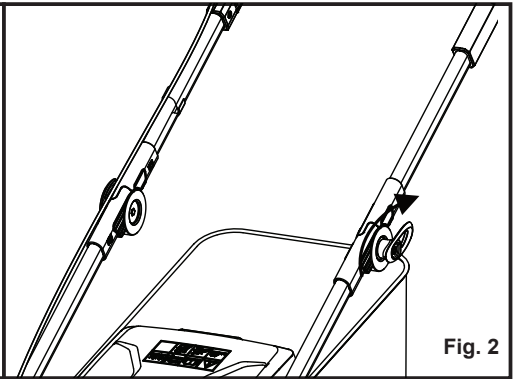

Fig. 2
2. Align the upper handle and lower handle and secure with the wing knobs (Fig. 2).